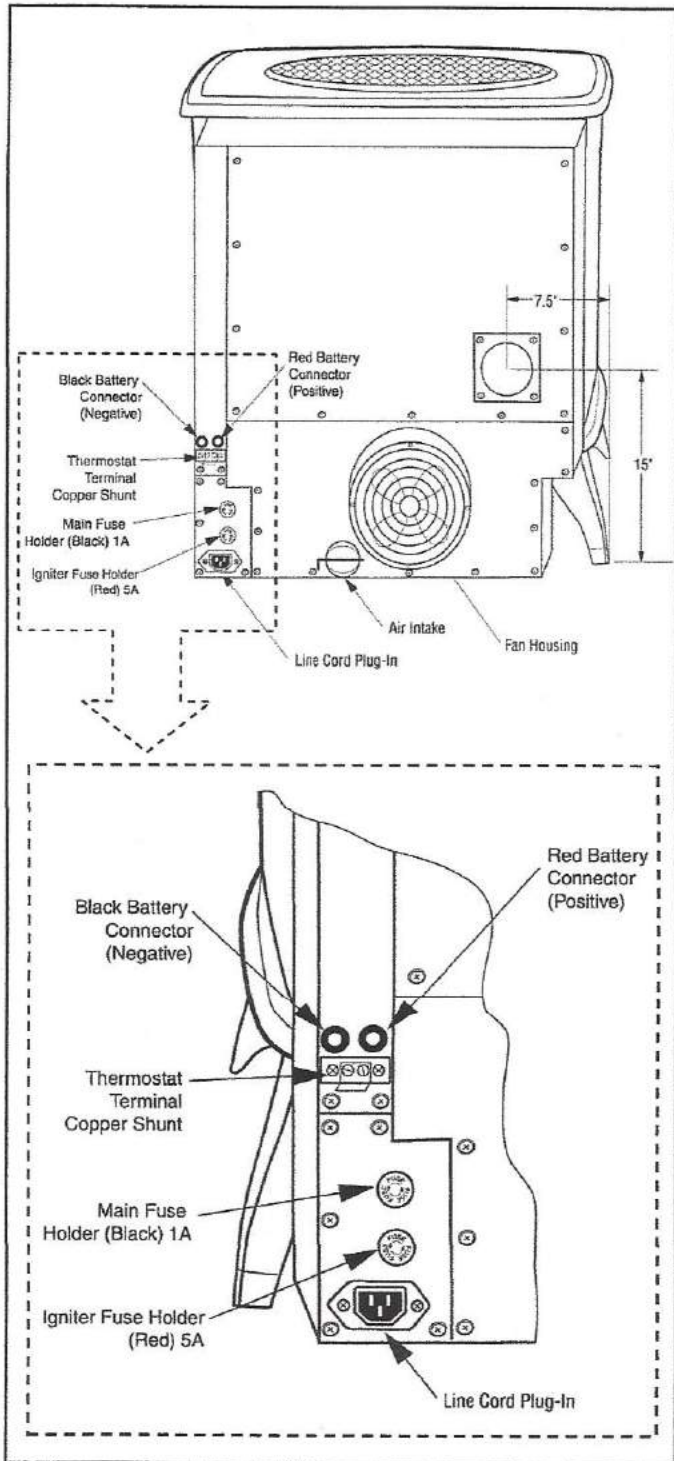

FIGURE 8
A wall or remote thermostat can be hooked to run the Echo 3000 E.I. automatically. The following is a step-by-step procedure for installing the optional thermostat. Note connection terminals on the bottom right side of the unit (see FIGURE 8). Use 18/2 thermostat wire for installation.
2. Hook up the thermostat wires to terminals (see FIGURE 8). Remove copper shunt. Replace shunt if thermostat hook-up is disconnected. If a remote thermostat is used, mount the "receiver" to the bottom of the stove with Velcro and then hook up receiver wires to the terminal (see FIGURE 8). Follow thermostat manufacturer's instructions.
Follow the thermostat manufacturer's instructions carefully when using a wall or remote thermostat. Ensure the built in thermostat terminals on the bottom of the stove are used (See FIGURE 8). It is recommended the heater is run on "High" for approximately 30 minutes to get the heat exchanger hot before turning it to "Low." Burn the heater for a few hours before deciding which setting is optimal.
on the stove. **The red must be plugged in first before the black (see FIGURE 8).**